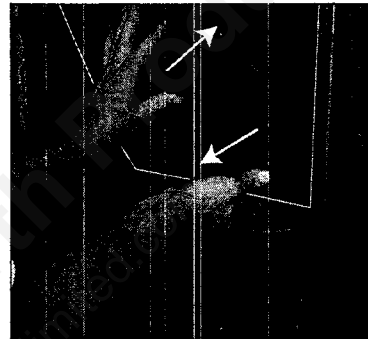

Figure 8
9. Slowly bring the bottom of the baffle towards you keeping pressure on the top section. When the baffle is almost in a vertical position you can lower the baffle from the top lip and out of the firebox. **Figure 8.**